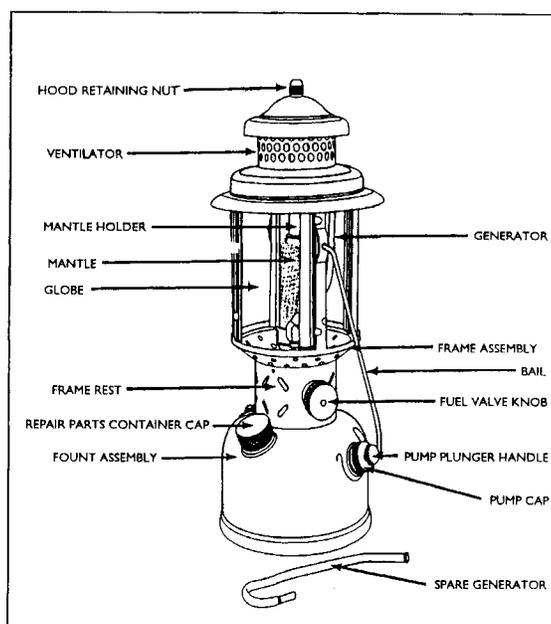

Figure 3-15. Front view of the gasoline lantern
1. Perform before-operation maintenance. See Figures 3-15 and 3-16.